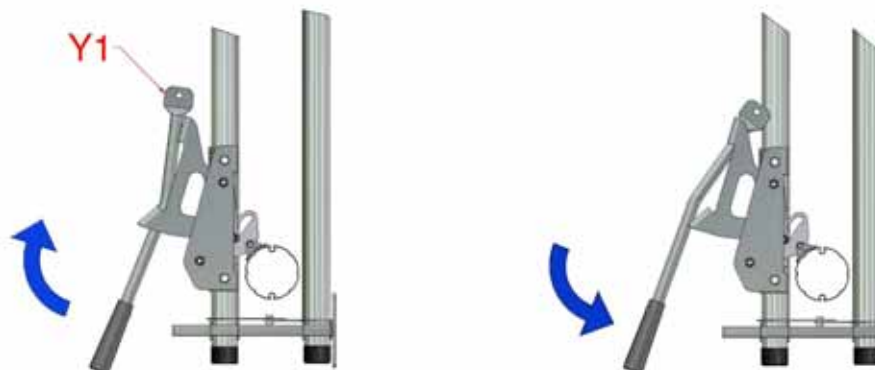

Figure 32, Locking Catch Hand Operation
- 8.4 If the Multibay is fitted above a barrier then the Locking Catches will need to be operated by hand with the help of the locking catch lever (Y1), Figure 32.